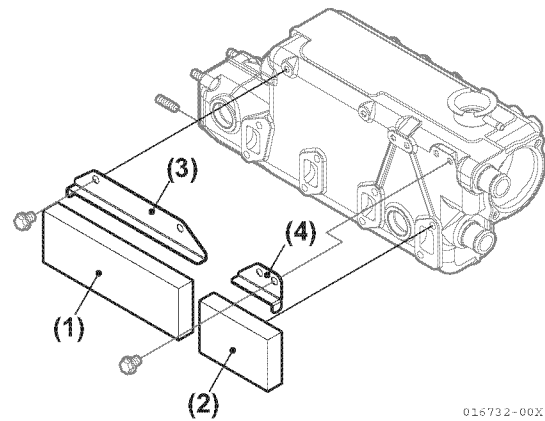

Figure 7-24
7. The noise absorber A and B (**Figure 7-24, (1), (2)**) are installed between the heat exchanger and cylinder head for 4JH4-TE/4JH4-HTE engines. Replace if the absorber deteriorates.
- Avoid damaging covers A and B (**Figure 7-24, (3), (4)**).